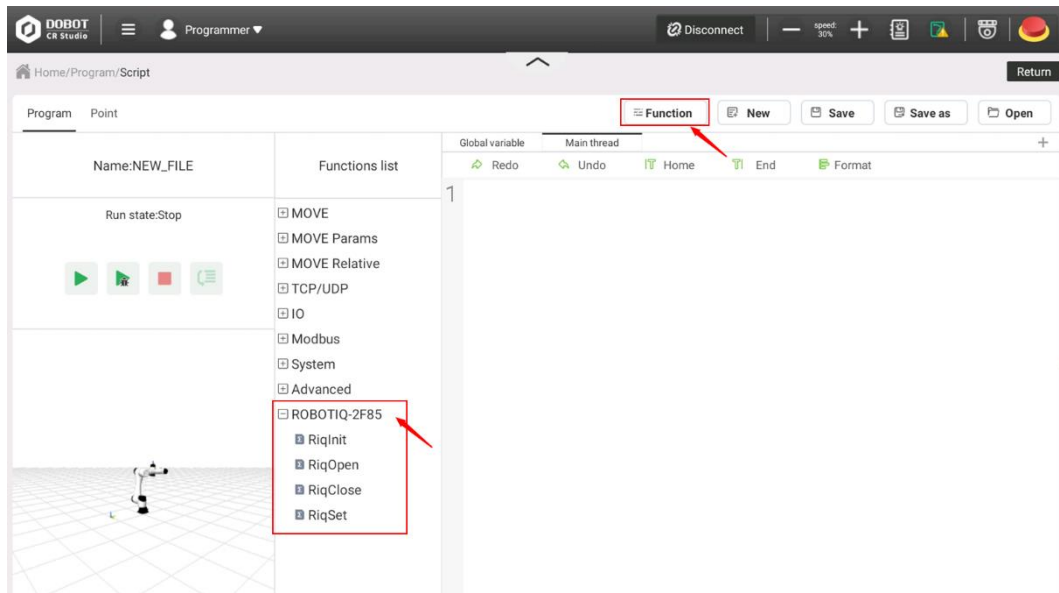

Figure 3.11 Select functions to operate the gripper
Step 1 Enter the **Script** page, and click **Function**, as shown in Figure 3.11.